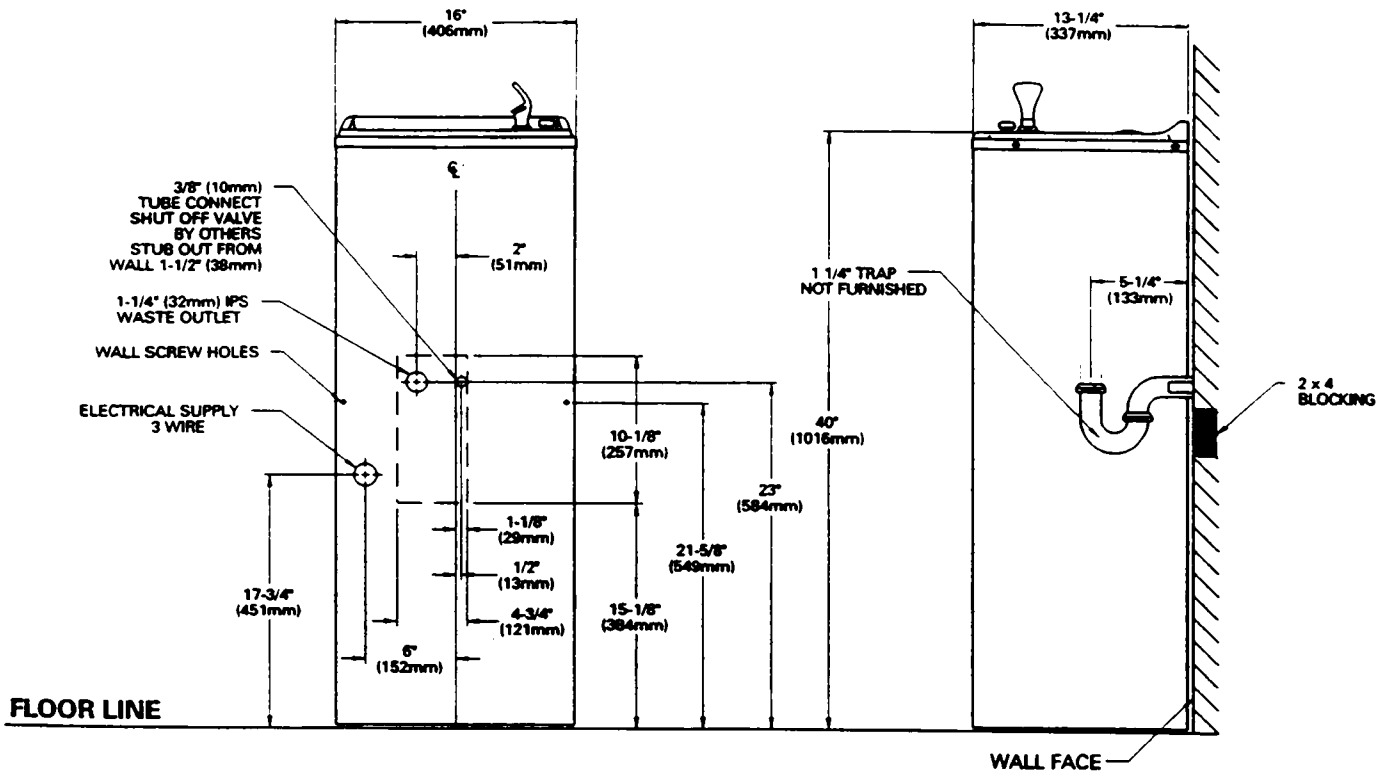

FIG. 1
- 1). Mount the trap as shown in Figure 1. (trap not furnished)